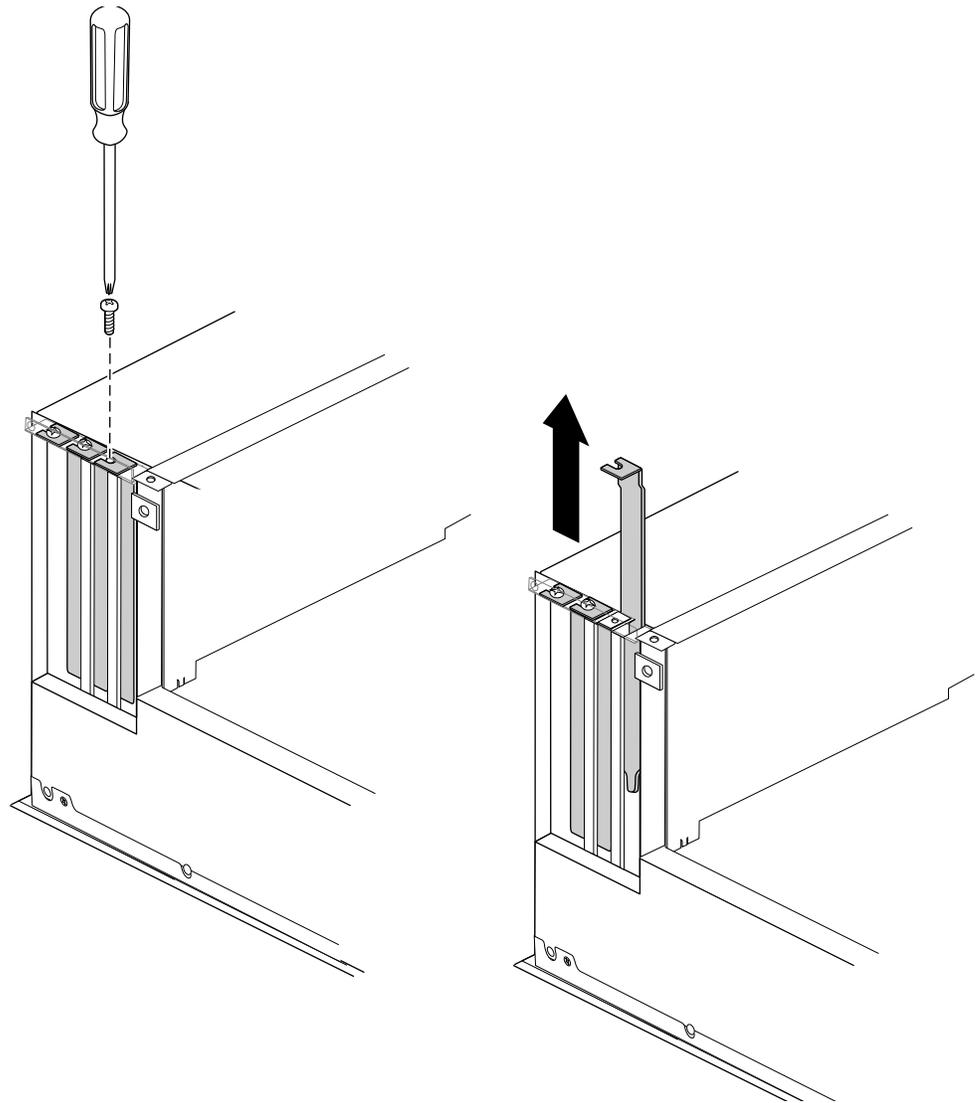

Figure 2-2 Removing a PCI Slot Blanking Plate
- Using a #2 Phillips screwdriver, remove the single screw that secures the blanking plate to the chassis. See Figure 2-2.
- Remove the blanking plate by lifting it straight up, as shown in Figure 2-2. Save the blanking plate it in case you have to remove this option in the future.